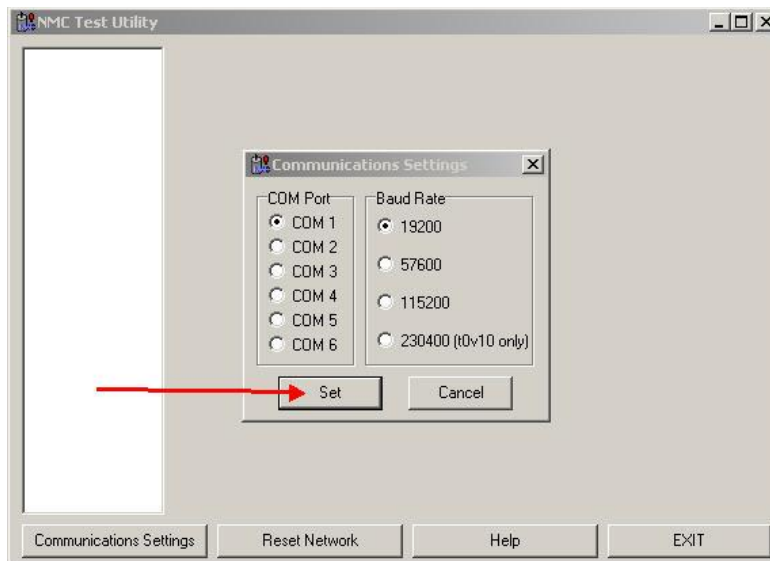
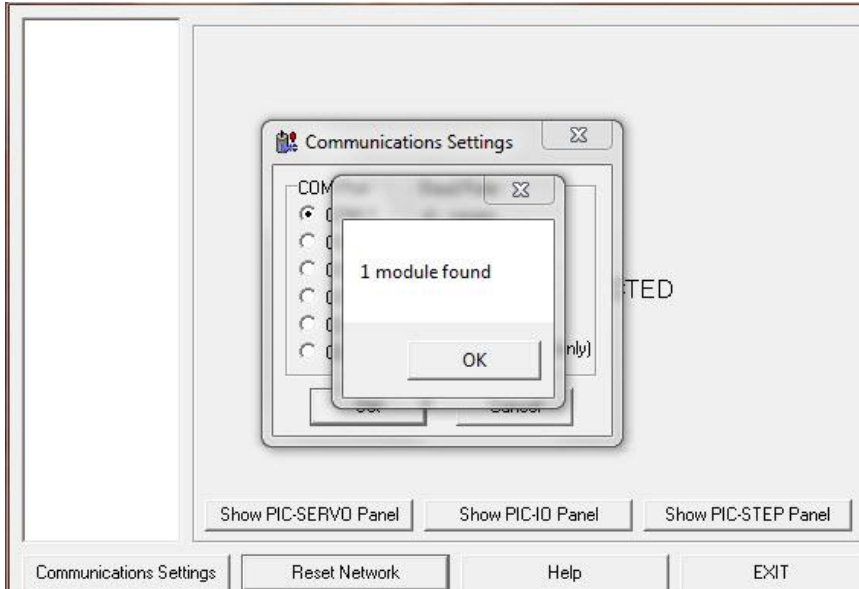

Fig 1.
Fig 6.
4. Press the SET button. (Fig 1)
9. Press SET (Fig1) this time you should see 1 module found (Fig 6)